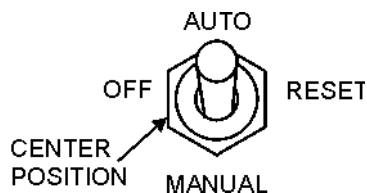

Figure 51. Off/Manual Auto Switch (OFF)
3. Place the Off/Manual/Auto Switch (Figure 51) in the "**OFF/RESET**" position